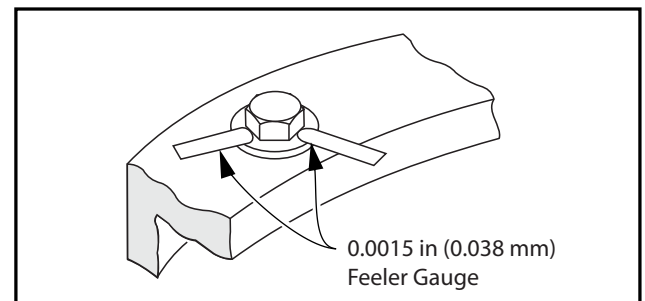

Figure 3-43. Turntable Side Bearing Bolt Feeler Gauge Check
- c. Ensure 0.0015 in (0.038 mm) feeler gauge will not fit under bolt head to bolt shank as shown in Figure 3-43.
- g. Ensure 0.0015 in (0.038 mm) feeler gauge will not fit under bolt head to bolt shank as shown in Figure 3-43.